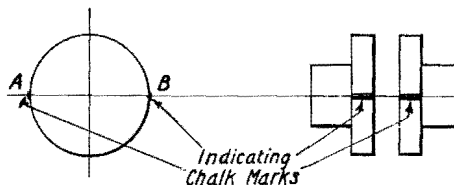

FIG. 10
3. Measure distance between coupling faces at the chalk marks with a feeler gauge at both A and B (Fig. 10).